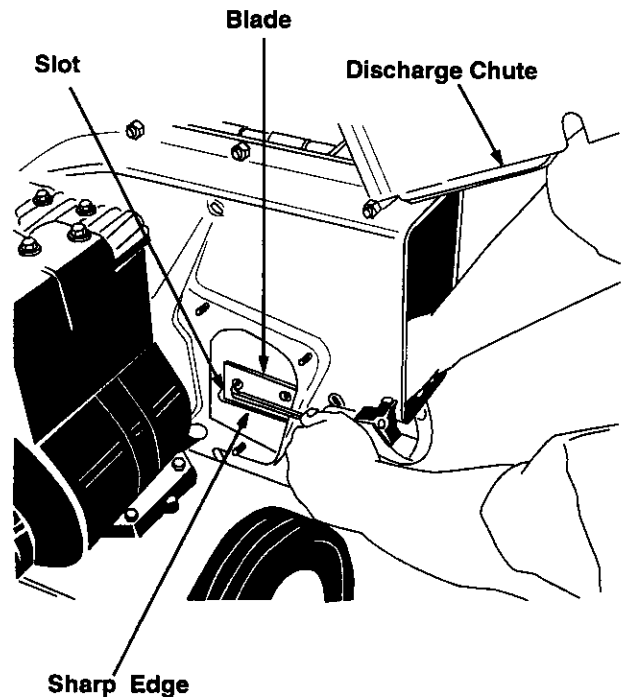

Figure 19
- Rotate the impeller assembly by hand until you locate one of the two chipper blades in the chipper chute opening. Remove the blade, using a 3/16" allen wrench on the outside of the blade and 1/2" wrench on the impeller assembly (inside the housing). See figure 19.
- Reassemble in reverse order. Make certain blades are reassembled with the sharp edge facing the direction shown in figure 19 (sharp edge is assembled toward the slotted opening at the bottom).